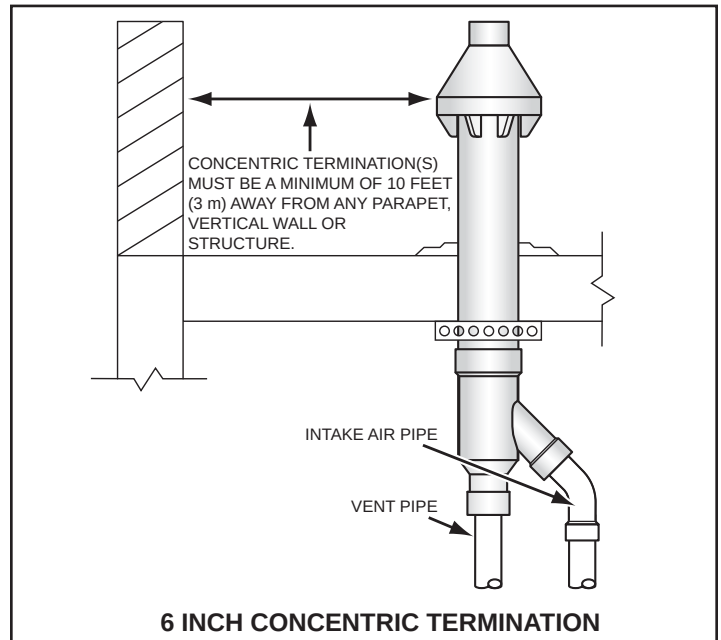
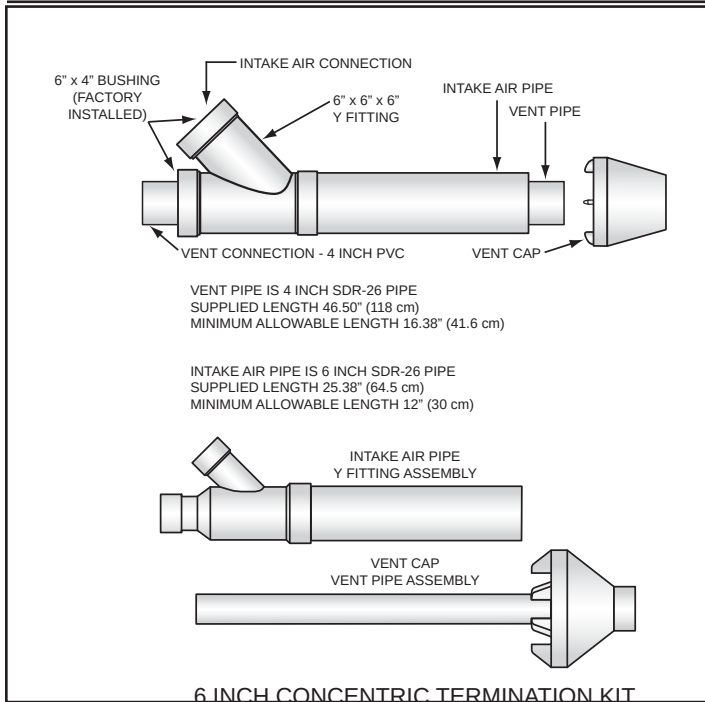
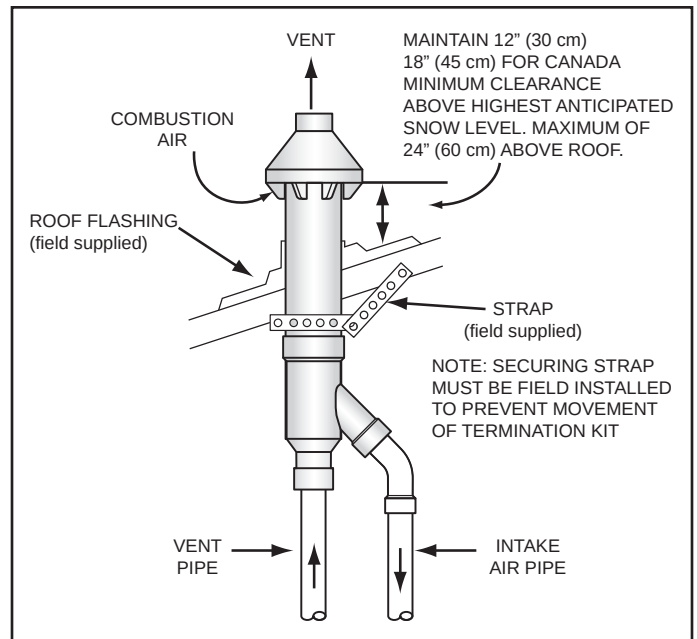
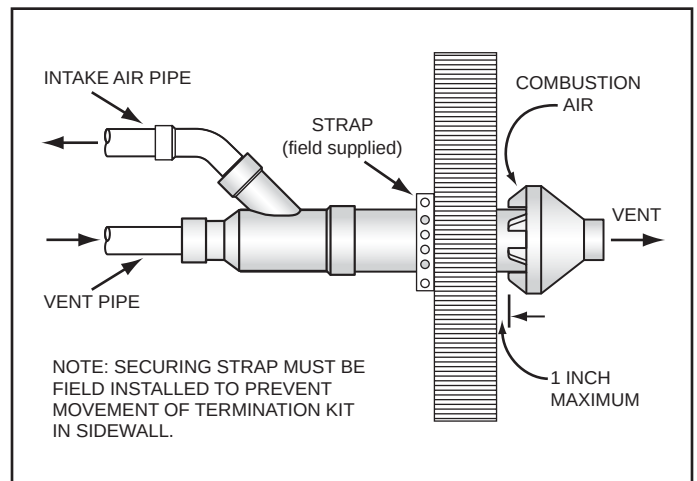

Figure 24. Six-inch Concentric Termination - Flat Roof Clearance
Figure 25. Six-Inch Concentric Termination Kit
Figure 26. Six-Inch Concentric Termination - Vertical Installation
Figure 27. Six-Inch Concentric Termination - Sidewall Installation
3. When installing a concentric termination vertically through the roof; ensure that all exterior vertical clearance requirements for the concentric termination, shown in *Figure 24* and *Figure 26* (page 31), are being maintained. These clearances and those cited by local and national codes must be maintained.
4. When installing a concentric termination vertically through a flat roof, the termination's vent cap must be a minimum of 10 feet (3 m) away from any parapet, vertical wall or structure as shown in *Figure 24*.
10. See *Figure 25* for the minimum lengths allowed for the 6 inch concentric termination.
Assemble and install the 6 inch concentric termination. See *Figure 25*, *Figure 26*, and *Figure 27* for these instructions: